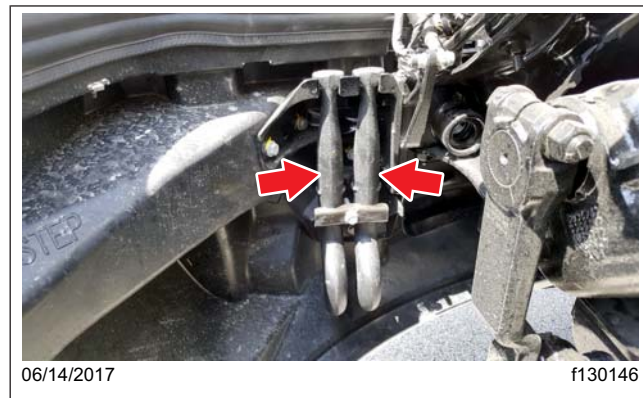

Fig. 13.2, Tow Hooks
2. Open the hood. Remove the tow hooks, located behind the driver's-side bumper. See Fig. 13.2. Close and latch the hood.